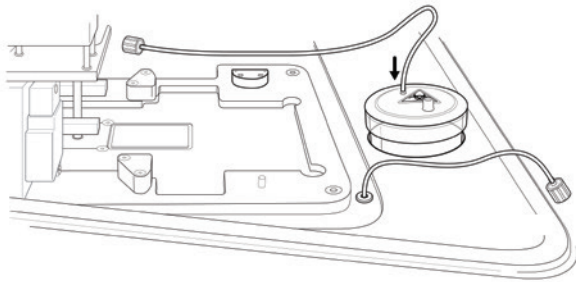

Fig. 15. Attach waste jar tubing.
- Attach the waste jar tubing to the Waste Jar (Figure 15).